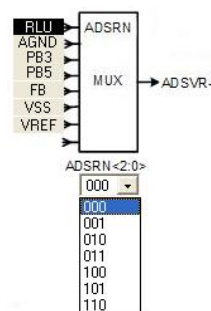

Figure 46
- (1) Click the specified network name with mouse left key, AD1RN can select to that network
- (2) Click the specified network switch with mouse left key, AD1RN can select to that network
- (3) Figure 46 will show up by clicking mouse left key, then users can select the switch network